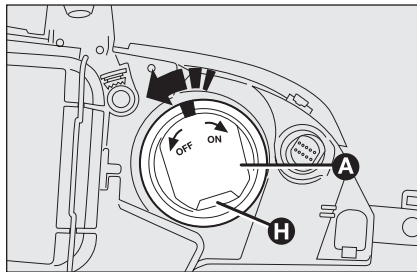
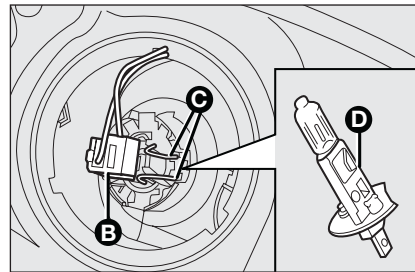

fig. 20
fig. 21
- turn the bulb holder anticlockwise **A**-fig. 20 and pull it out;
- disconnect the electric connector **B**-fig. 21;
- release the bulb holder clip **C**-fig. 21;
- remove the bulb **D**-fig. 21 and replace it;
- refit the clip **C**-fig. 21, connect the electric connector **B** and insert the cap **A**-fig. 20 turning it anticlockwise. Arrange the opening vent **H**-fig. 20 of the cap from the top downwards.